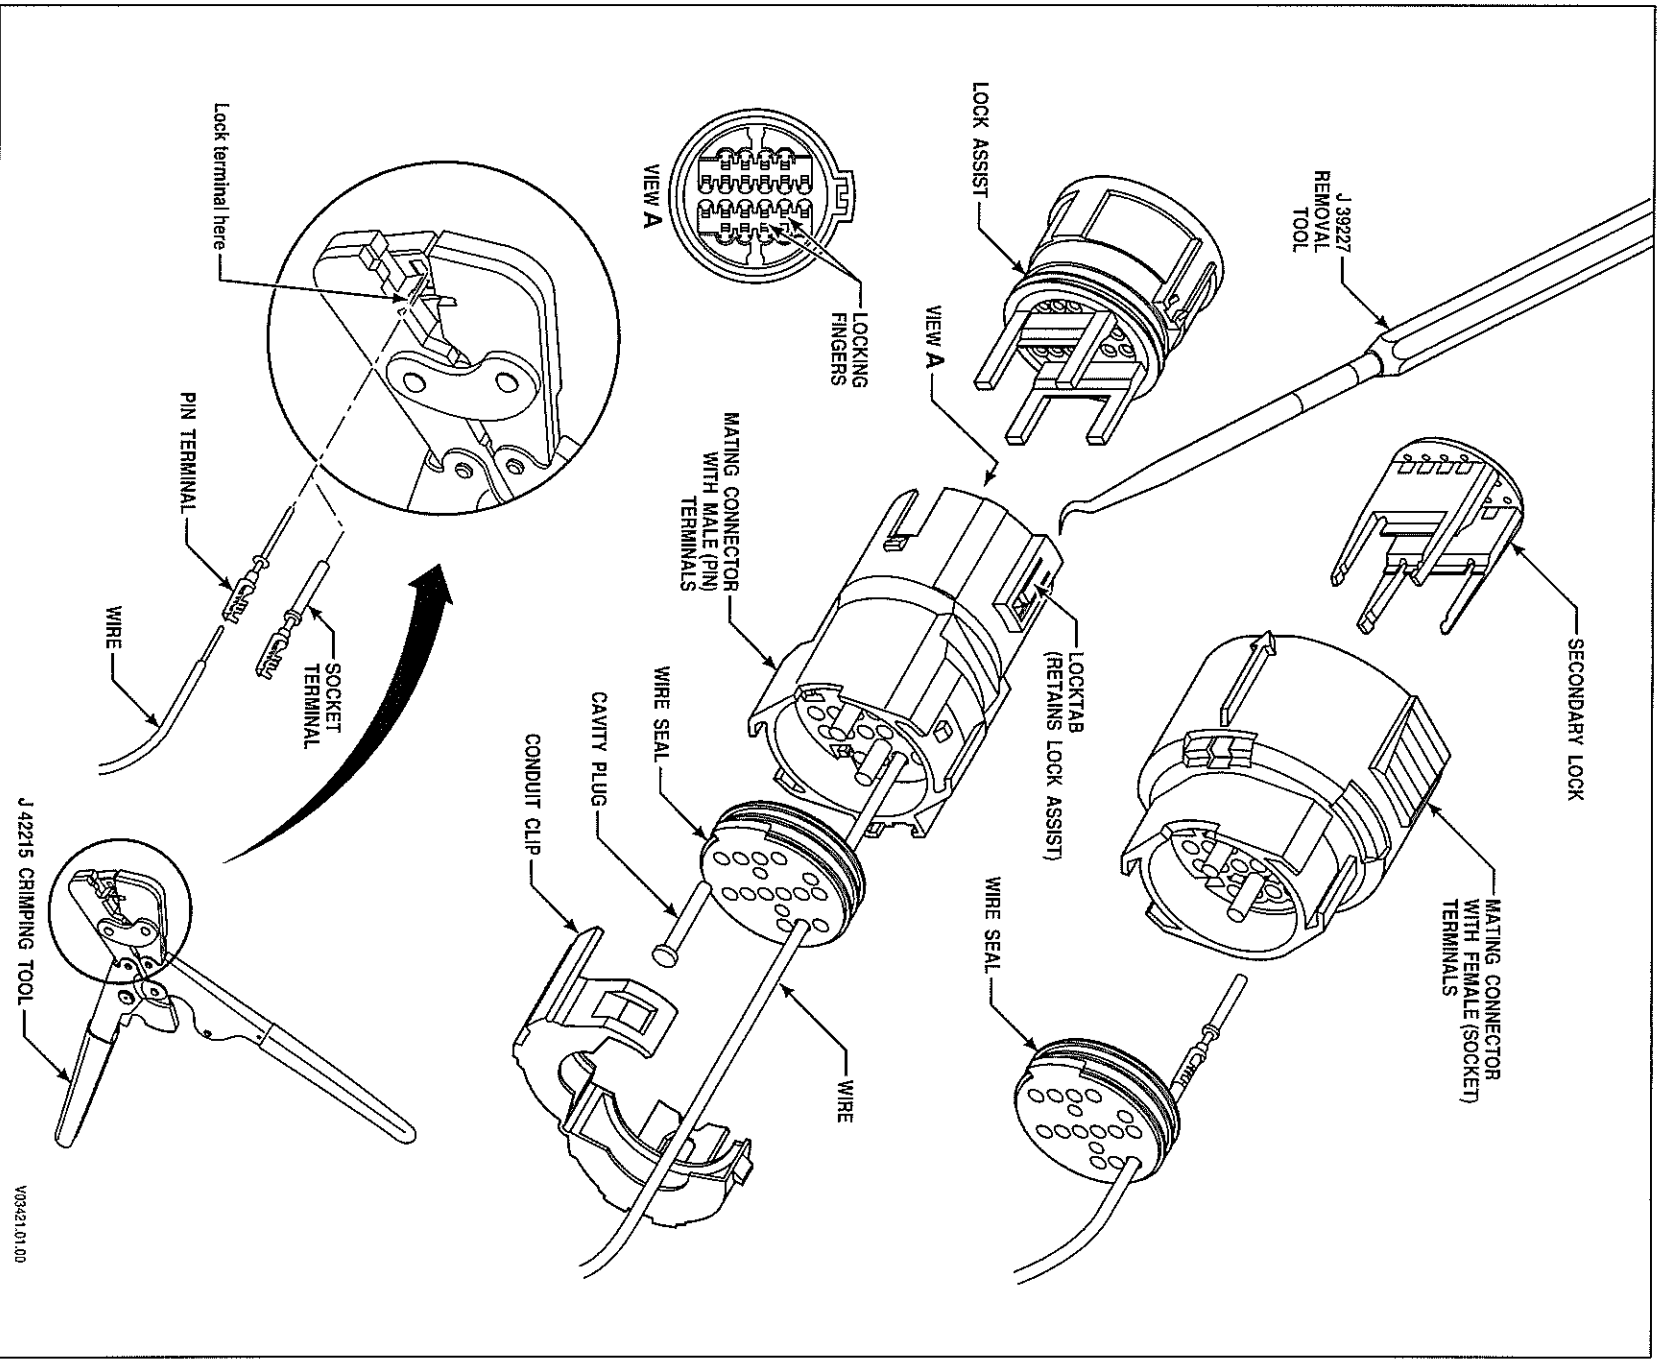

Figure E-4C. Delphi-Packard Micro Pack Connector (Strip Shift Selector)
2. Strip Shift Selector (Device) Connectors (Figure E-4C)
3. Strip Shift Selector Harness Connectors (Figure E-4C)
4. Complete terminal installation for Strip Shift Selector Connectors as follows: (Figure E-4C)